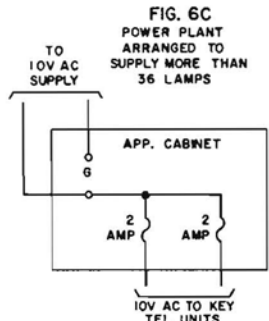
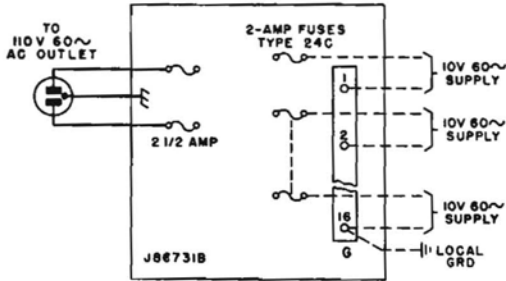
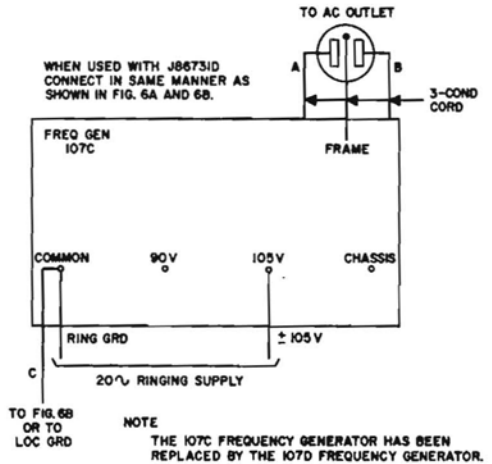

Fig. 6 - 101G (J86731A and D) Power Plants
Fig. 7 - 101G (J86731B) Power Plant
Fig. 8 - 101G (J86731C) Power Plant (107C Frequency Generator)
4.01 Power plant connections are shown in Fig. 6, 7, 8, and 9.
\*See Note 3, Fig. 6. \*\*See Note, Fig. 8. \*\*\*Total DC load not to exceed 1.5 amps.
- Delete Fig. 6 and renumber Fig. 7